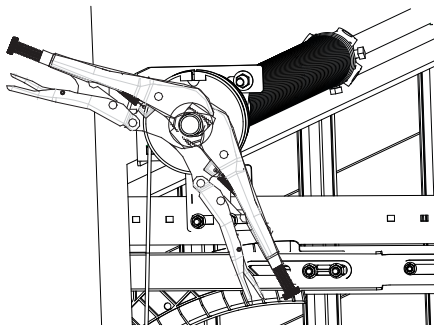

Fig: 3.7.2
a) Secure the torsion bar using 2 pipe wrenches, as shown in Fig 3.7.2.